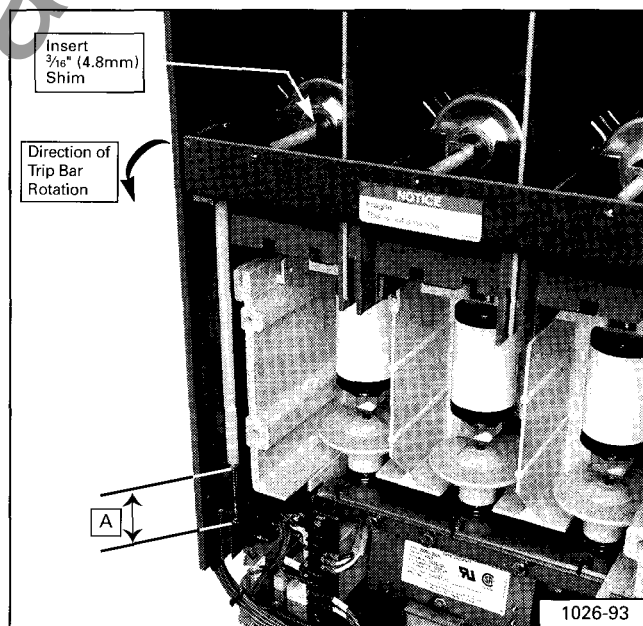

Figure 10. Operational Check of Trip Mechanism
5. Referring to **Figure 10**, insert a $\frac{3}{16}$ " (4.8mm) thick shim between one of the three plungers and the adjacent fuse, rotating the trip bar in the direction shown. The micro-switch contacts should open at this point. If they do not, loosen the locknut and adjust the machine screw to shorten dimension "A" slightly until the switch contacts open, then retighten the locknut.